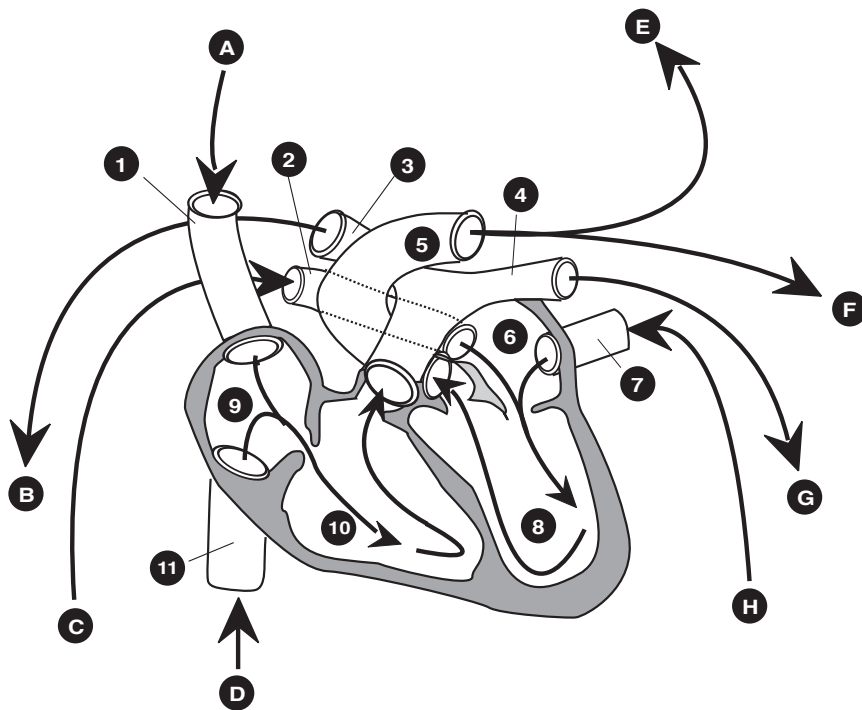

Figure 160.2 The heart
2. What are the names of the parts of the heart numbered 1 – 11 in Figure 160.2?